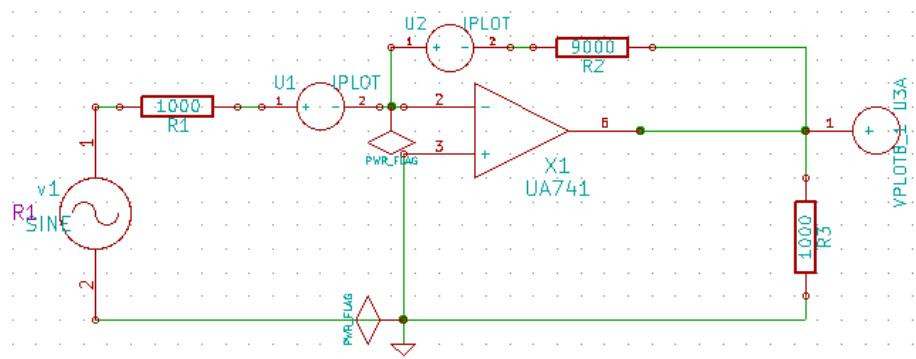

Figure A.27: Schematic
2. **Example 5.6:** Consider the non inverting amplifier circuit shown in Figure A.27. It is fed with a lower frequency sinusoidal signal of peak voltage $V_i = 1V$, and is connected to load resistance $R_L = 1k\Omega$.